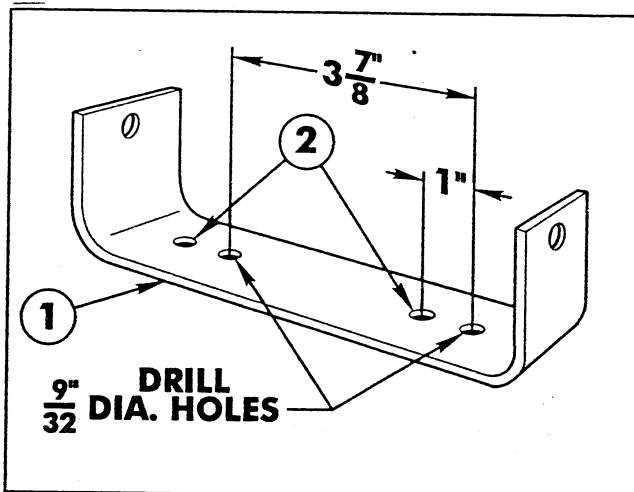

FIG. 7
1. Remove the "U"-shaped Mounting Bracket from the Monitor Control Box and drill two (2) 9/32" dia. holes in the Mounting Bracket as shown in FIG. 7.